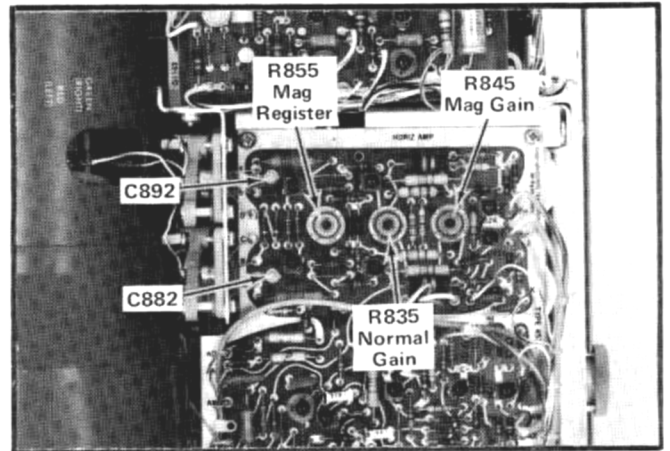

Fig. 5-14. Location of Horizontal Amplifier adjustments (B Sweep board).
c. ADJUST—Normal Gain adjustment R835 (see Fig. 5-14) for one marker each division. The second and tenth markers must coincide exactly with their respective graticule lines (reposition display slightly with the horizontal POSITION control if necessary).
d. ADJUST—Mag Gain adjustment R845 (see Fig. 5-14) for one marker each division. The second and tenth markers must coincide exactly with their respective graticule lines (reposition the display slightly with the horizontal FINE control if necessary).
e. ADJUST—Mag Register adjustment R855 (see Fig. 5-14) to position the middle marker to the center vertical line.
- g. ADJUST—C882 and C892 (see Fig. 5-14) for optimum linearity over the center eight divisions of the graticule (attempt to keep C882 and C892 nearly equal in capacitance, by adjusting each capacitor about the